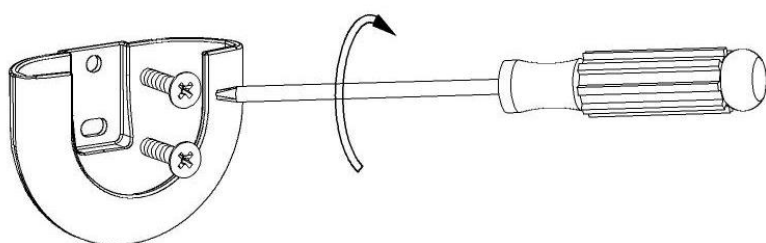

Fig. 4a
1. Locate a suitable wall to fix the remote control holder with the 2 screws. (Fig.4a).